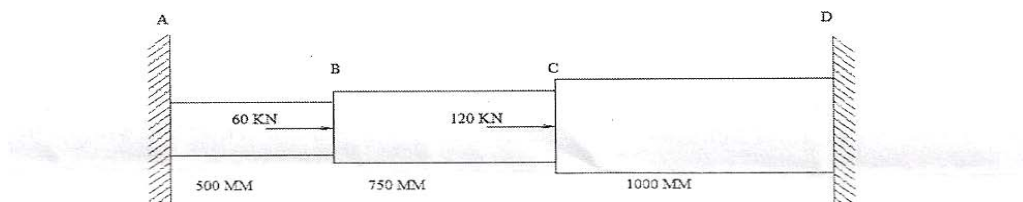

Figure 1b
1. a. Draw stress strains diagram for aluminium and for mild steel, clearly mention all point on the diagram (8)
b. A bar ABCD is fixed at point A and D as shown Figure 1b. it is subjected to (8)